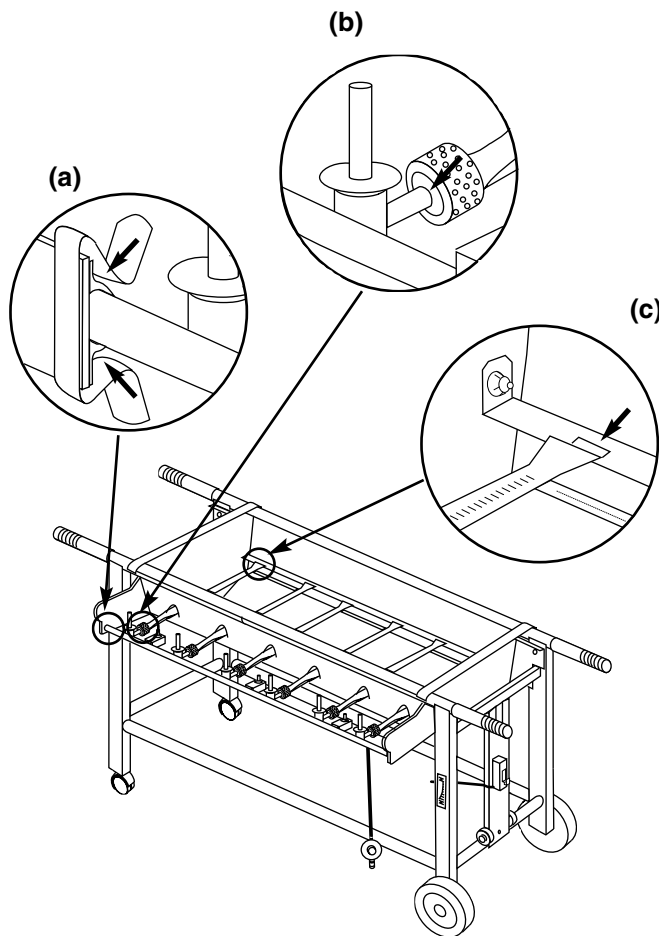

Figure 21
Your Weber Gas Barbecue burner assembly has been factory assembled, pressure and flame tested. As a safety precaution we recommend you check the burner alignment. Figure 21.
- Are the mounting clips that hold the manifold and burner assembly in place? Figure 21 (a).
- Do the valves fit into the ends of the burners? Figure 21 (b).
- Is the end of each burner inserted into its locating slot? Figure 21 (c).